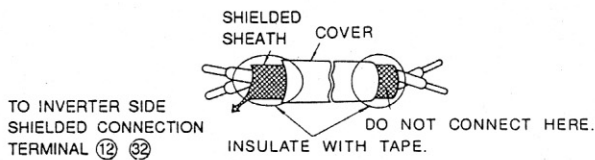

Fig. 3 Preparation of Shielded Cable Ends
(1) Separate control signal wiring (terminal TC1 to TC11) of DI-08 from main circuit wiring or other power lines.
(2) To prevent malfunction caused by noise, use shielded cable for control signal wiring and prepare its terminal ends as shown in Fig.3. Wiring length must not exceed 10m.
(3) Connect terminal ends of cable which is not used in shielded cables to 0V.